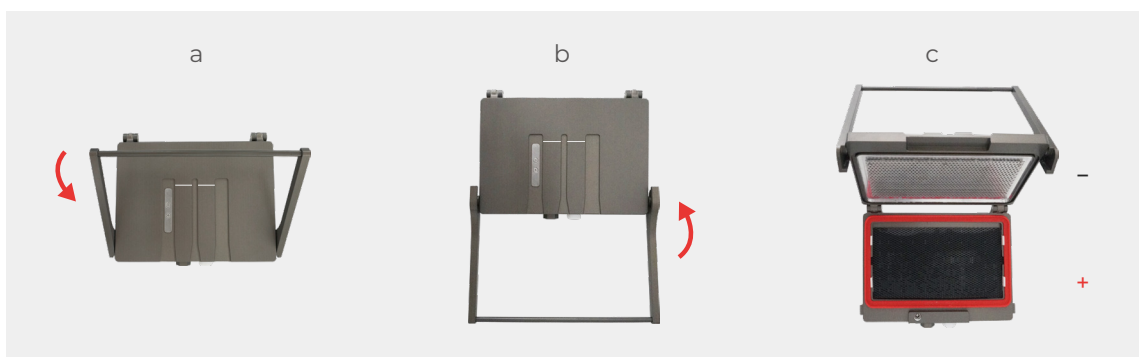

Figure 12. Opening the transfer cassette
4. Place the transfer cassette on the bench and open the cassette as shown in Figure 12.